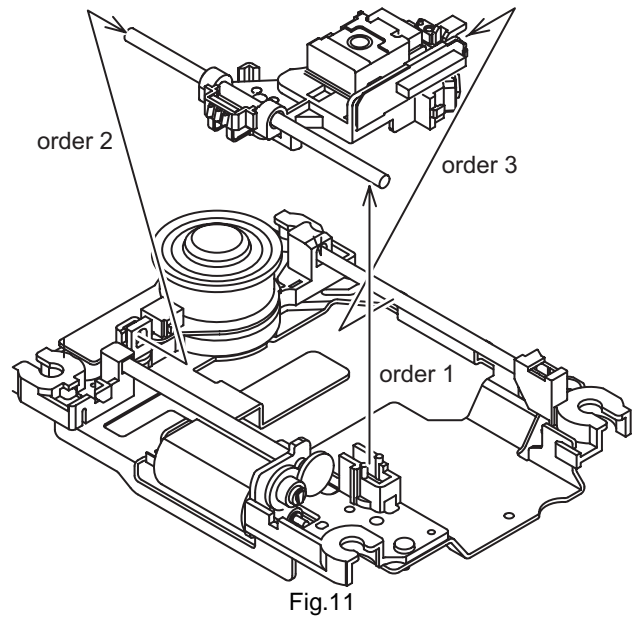

Fig.11
- (5) Take out the pickup assembly from traverse mechanism chassis by order. (See Fig.11)